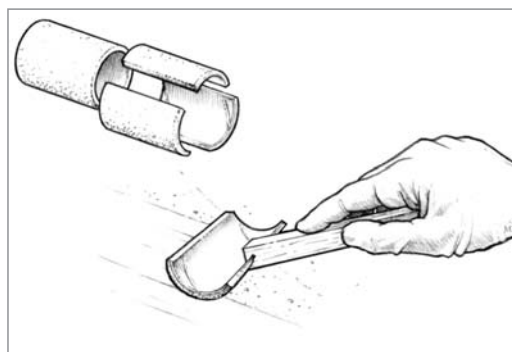

Figure 6-18 Tip off the fresh coat of epoxy with the grain, using a foam roller brush to remove bubbles and roller marks.
8. Drag a foam roller brush lightly over the fresh epoxy in long, even, overlapping strokes after each full batch is applied. Use enough pressure to smooth the stipple, but not enough to remove any of the coating (Figure 6-18). Alternate the direction in which each coat is tipped off, 1st coat vertical, 2nd coat horizontal, 3rd coat vertical, etc. A WEST SYSTEM 800 Roller Cover can be cut into segments to make a tipping bush.